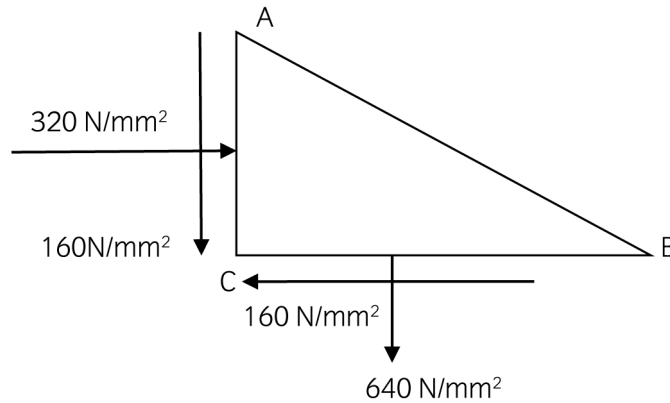

Figure Q2
- b) At a point in a strained material, on plane **BC** there are normal and shear stresses of 640 N/mm^2 and 160 N/mm^2 respectively. On plane **AC**, which is perpendicular to **BC**, there are normal and shear stresses of 320 N/mm^2 and 160 N/mm^2 respectively. These stresses are shown in Figure Q2. Determine the followings.